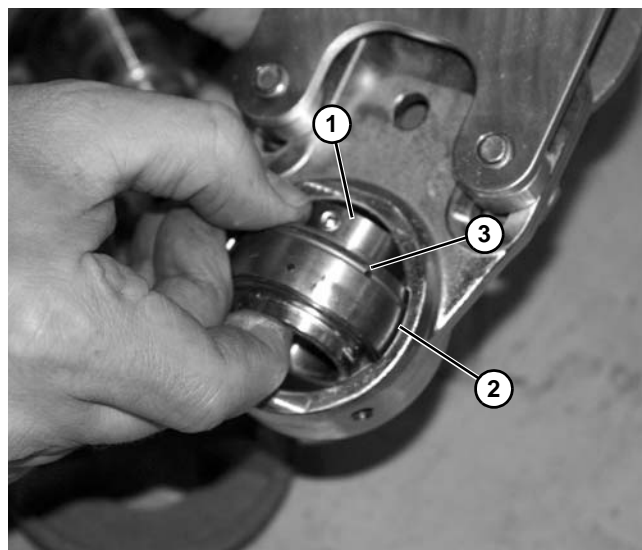

Figure 182
3. Turn bearing (Figure 182, item 1) to align with slots (Figure 182, item 2) and anti-rotation nub (Figure 182, item 3), as shown, in bearing housing. Then remove bearing.